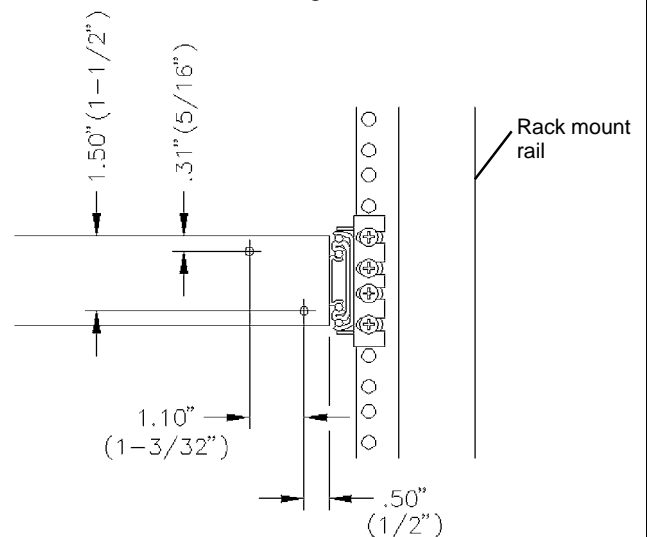

Figure 7
1. Roll-out shelves manufactured before June 1995 may not have the appropriate holes that are required to mount the Roll-Out Bracket and may require field drilling. (Mark the two hole locations on the rear flange of the roll-out shelf and drill with a #19 [.166" dia.] drill bit. Refer to **Figure 7**).